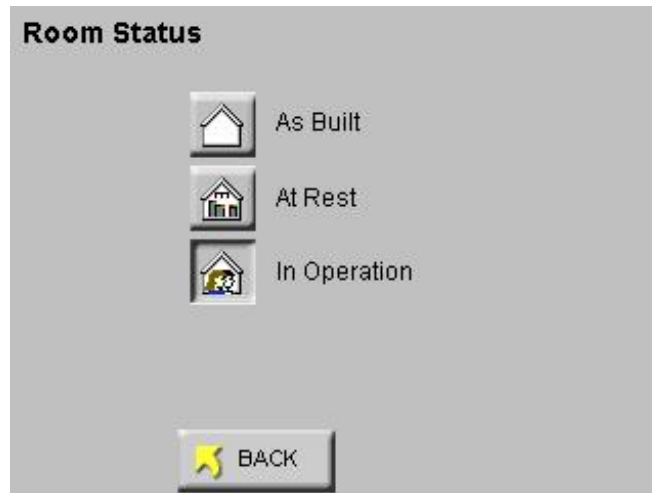

Figure 6-92 Reports Room Status Screen
- Press the STATUS button to display screen shown in Figure 6-92.